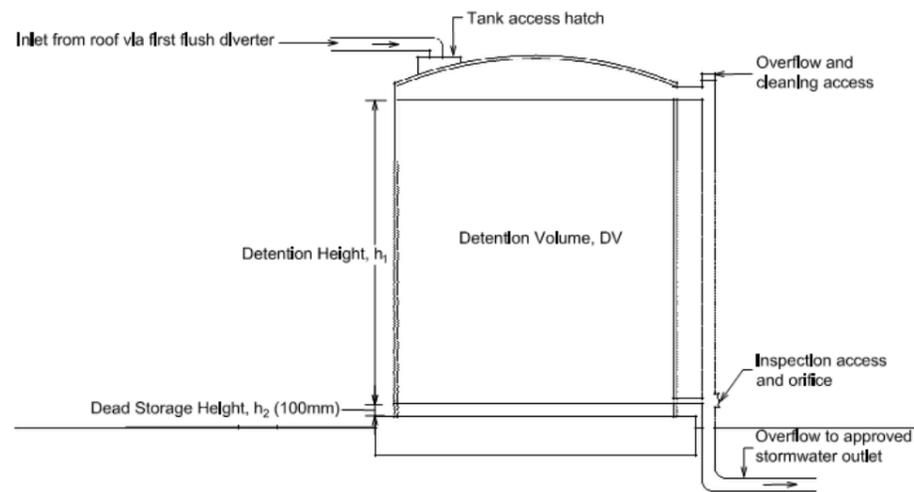

Figure 4: Schematic of Detention Tank configuration
Using the chosen tank dimensions: Total Height (H) and Tank Plan Area (PA), and the required tank volume: Detention Volume (DV) from Step 3, determine the required configuration for the Detention Tank. Figure 4 illustrates a schematic of an above ground detention tank configuration.